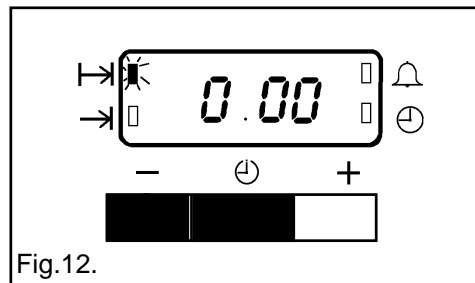

Fig.12.
- i) To cancel an automatic programme press the Selector Control button until the 'Cook Time' indicator neon ($\text{H} \rightarrow$) flashes. Press the decrease control (-) until the display reads 0.00 as Fig. 12.